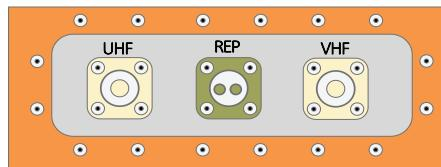

Figure 2:
- Before erecting the antenna masts, attach the other ends of the **VHF** and **UHF** coax cables to the appropriate connectors on the bulkhead mount on the back of the fiberglass box. *(See Figure 2)*